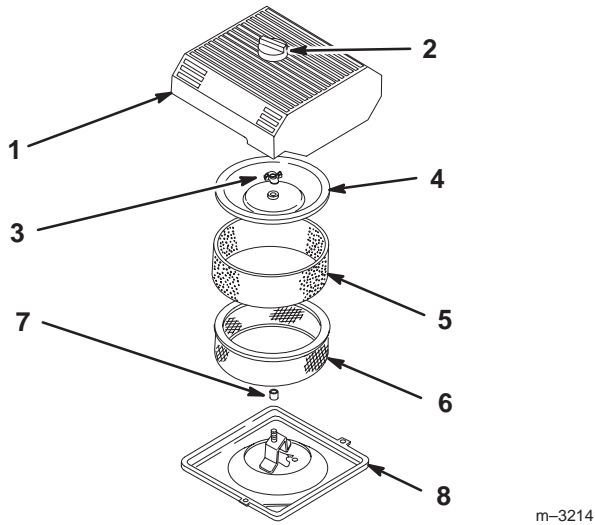

Figure 26
3. Clean around the air cleaner to prevent dirt from getting into the engine and causing damage (Fig. 26).
4. Loosen the knob on the air cleaner cover and remove the cover (Fig. 26).
5. Carefully slide the foam element off the paper element (Fig. 26).
6. Unscrew the cover nut and remove the cover and paper element (Fig. 26).
1. Carefully slide the foam element onto the paper air cleaner element (Fig. 26).
3. Install the cover nut finger-tight against the cover (Fig. 26).
4. Install the air cleaner cover and knob (Fig. 26).